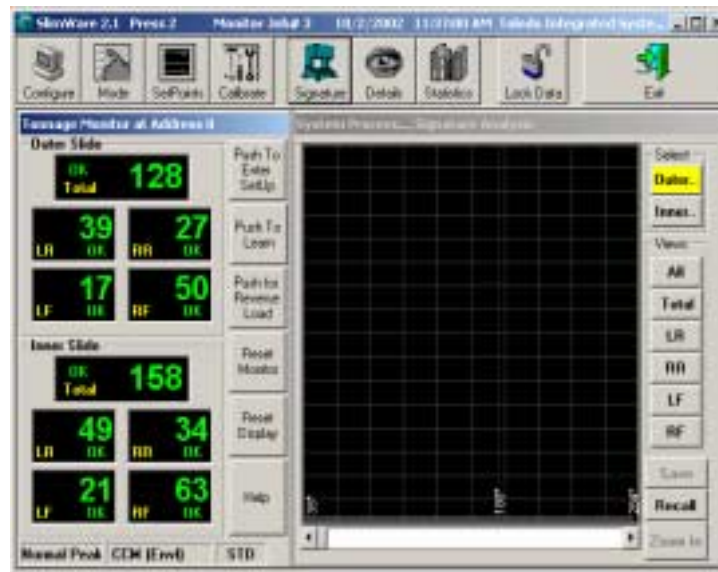

Figure 10.3 - Tonnage Monitor and System Process Windows (Monitor Signatures)
- Select the **Signature** button from SlimWare's main toolbar. The Tonnage Monitor window and the System Process window will be displayed as shown in Figure 10.3.